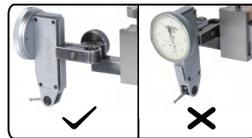

fig.2
- Please install dial test indicator correctly as fig.2.